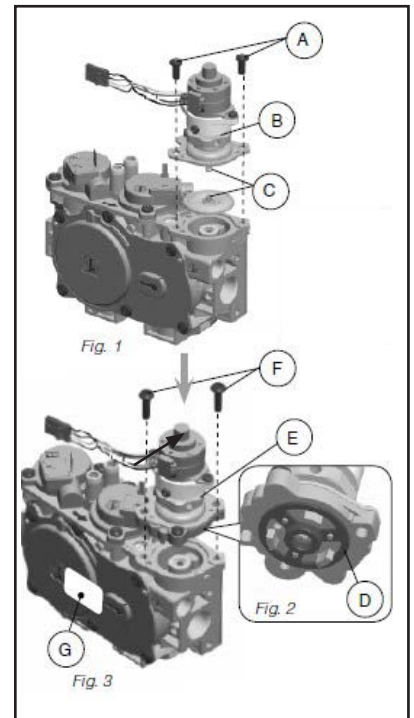

Figure 11: 885 Gas Valve
7. Convert the SIT gas valve (Figure 11):